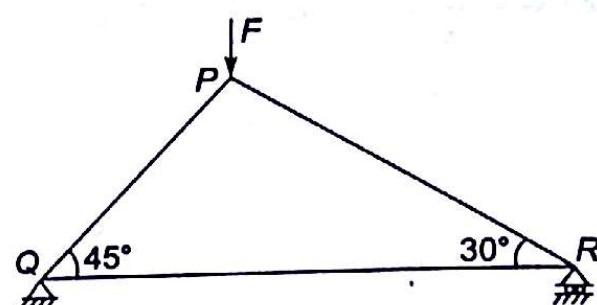

Fig. 4.56
4.27 Consider a truss PQR loaded at P with a force F as shown in the Fig. 4.56. Tension in the member QR